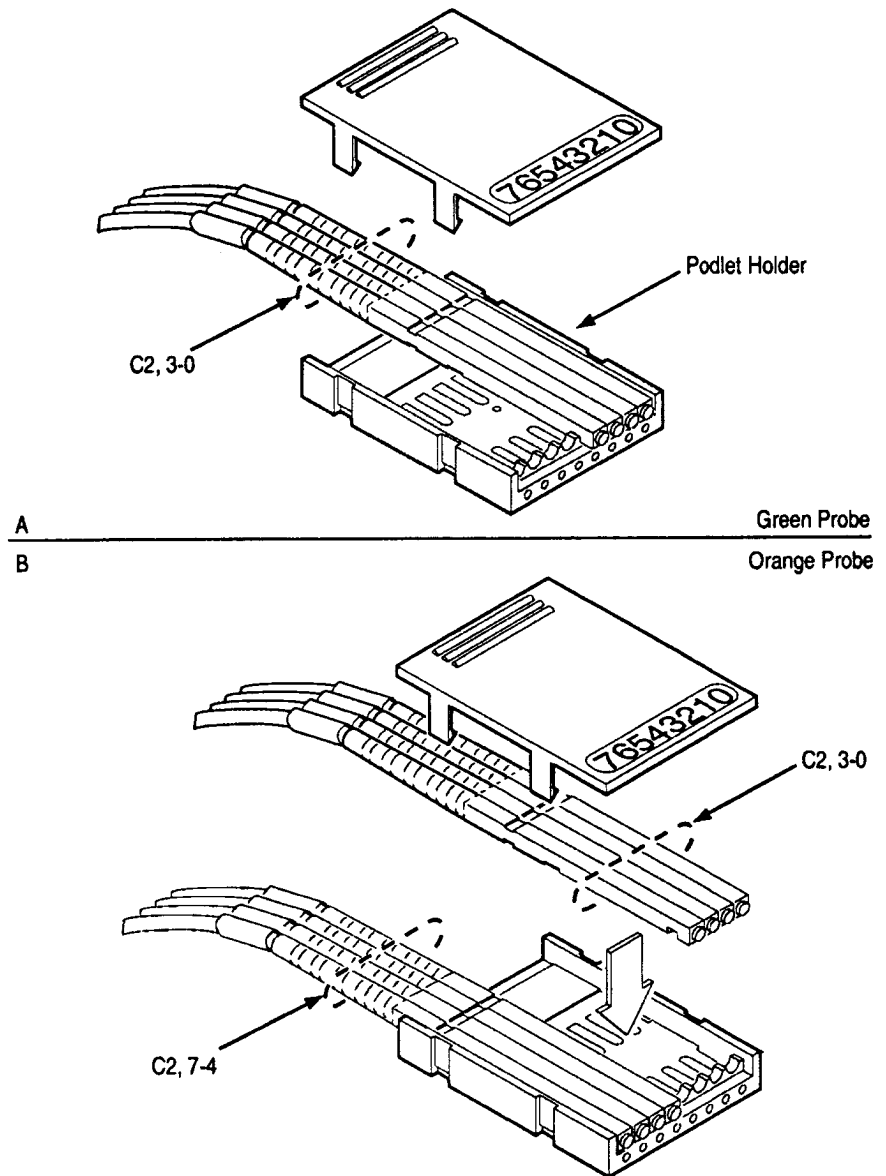

Figure 1-7: Moving 32GPX Control Signal Podlets from One Podlet Holder to Another
1. Refer to Figure 1-7; move the green probe's control podlets (C2, 3-0) from their podlet holder.
2. Refer to Figure 1-7 and place the podlets from the green probe into the control podlet holder of the orange probe.